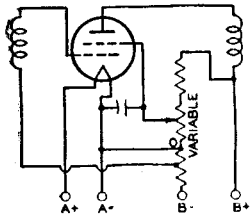

Fig. 95—Tetrode circuit in which screen-grid voltage is obtained from a potentiometer.
may be obtained from a tap on a voltage divider, from a potentiometer, or from a series resistor connected to a high-voltage source, depending on the particular tube type and its application. The screen-grid voltage for tetrodes should be obtained from a voltage divider or a potentiometer rather than through a series resistor from a high-voltage source because of the characteristic screen-grid current variations of tetrodes. Fig. 95 shows a tetrode with its screen-grid voltage obtained from a potentiometer.
**Screen-grid voltage variation** for the rf amplifier stages has sometimes been used for volume control in older-type receivers. Reduced screen-grid voltage decreases the transconductance of the tube and results in reduced gain per stage. The voltage variation is obtained by means of a potentiometer shunted across the screen-grid voltage supply. (See Fig. 95.) When the screen-grid voltage is varied, it must never exceed the rating of the tube. This requirement can be met by providing a fixed stop on the potentiometer.